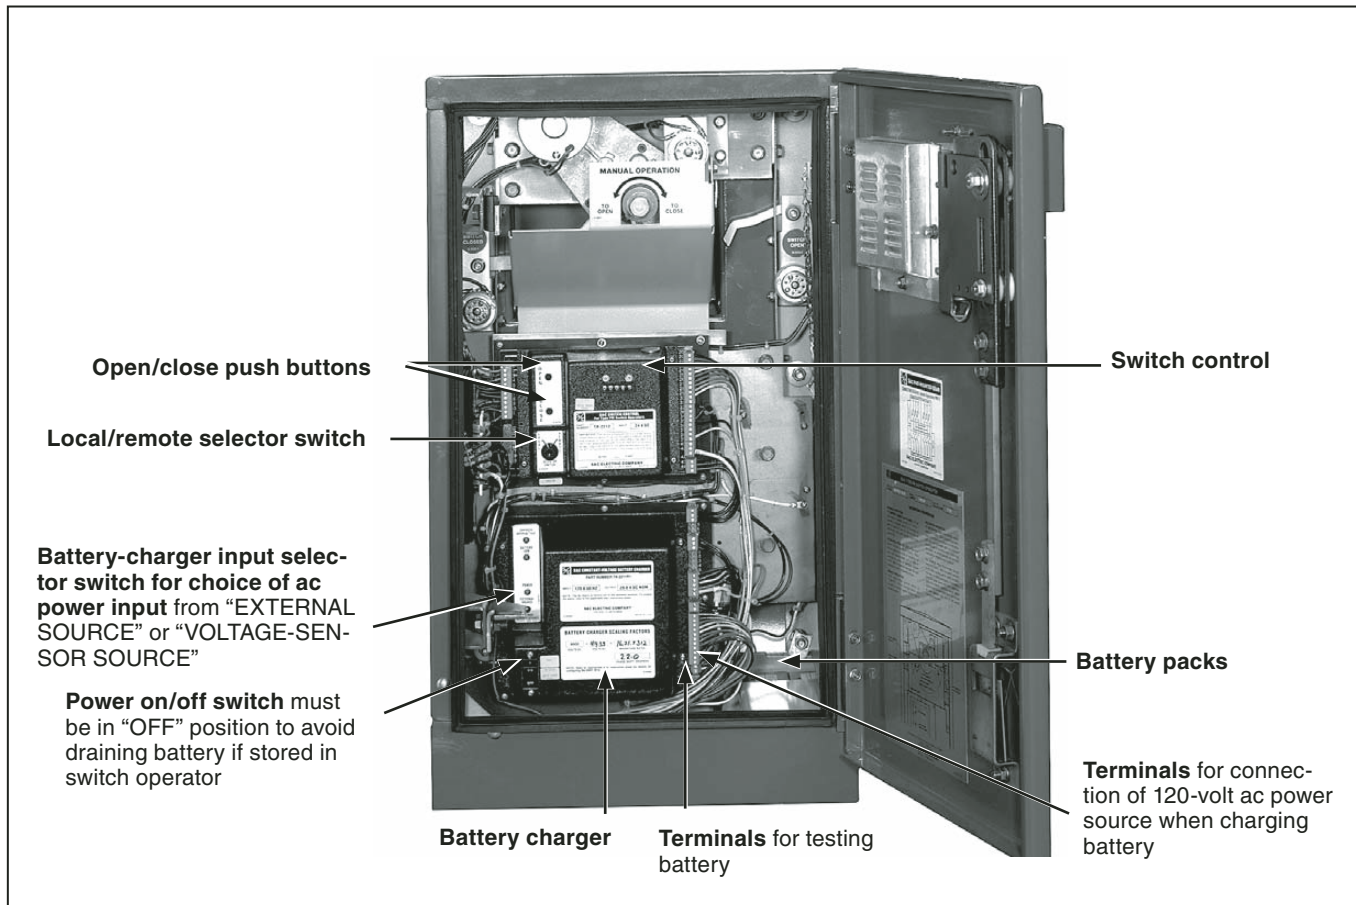

Figure 2. Interior view of Type PM Switch Operator showing battery packs and battery charger.
If the battery packs are not removed while the gear is in storage, make sure the power on/off switch on the battery charger is in the “OFF” position. See Figure 2. **The power will be drained from the battery packs if the switch is in the “ON” position.**
If the PMX Switchgear has not been placed in service by the date shown on the tag attached to the switch operator containing the battery, the battery charger must be connected to a transformer-isolated 120-volt ac power source to charge the two 12-volt dc battery packs. See Figure 2. To connect a 120-volt ac power source to the battery charger, proceed as follows:
3. Using a voltmeter, check the open-circuit voltage of each battery pack by placing the probes on the appropriate “1” and “2” terminals on the battery charger. One set of terminals is provided for each battery pack. See Figure 2.